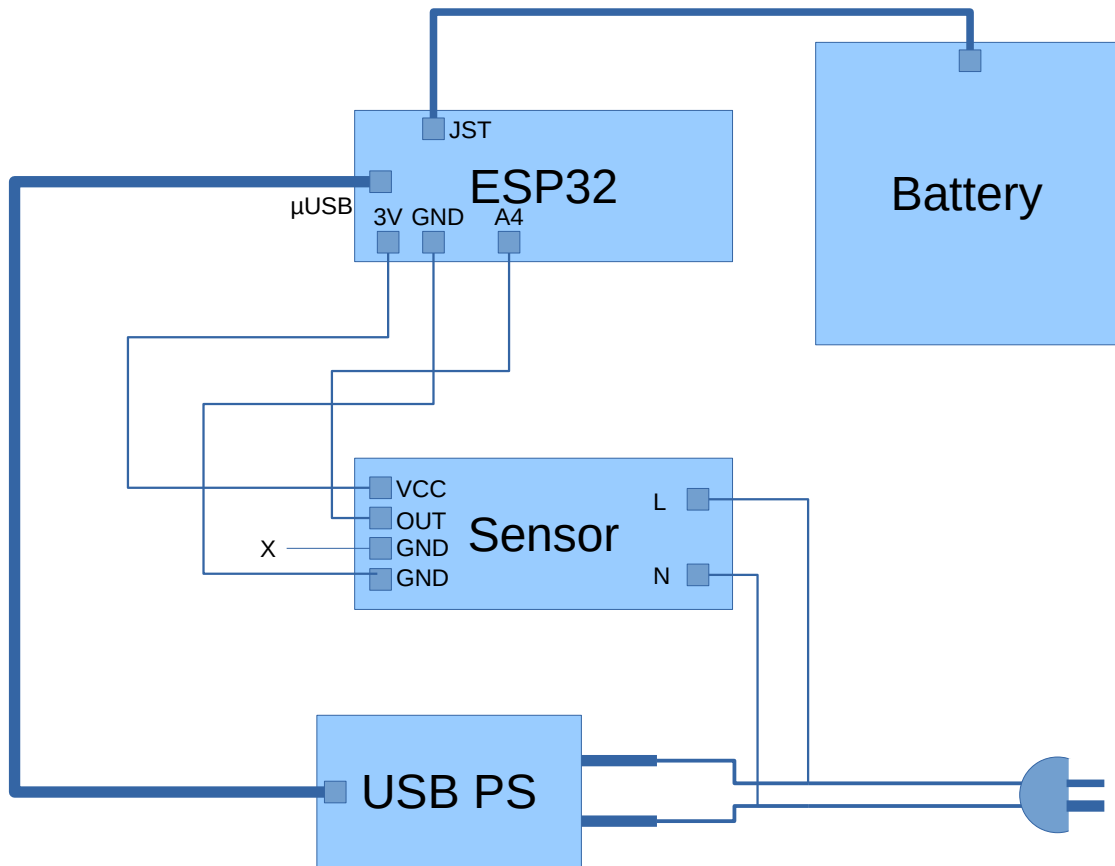

Figure 1: Power line monitor module wiring
3. Connect the modules together according to Figure 1. Note although the L and N terminals on the sensor module appear to be isolated, I took care to connect the fat spade on the power plug to the N terminal.